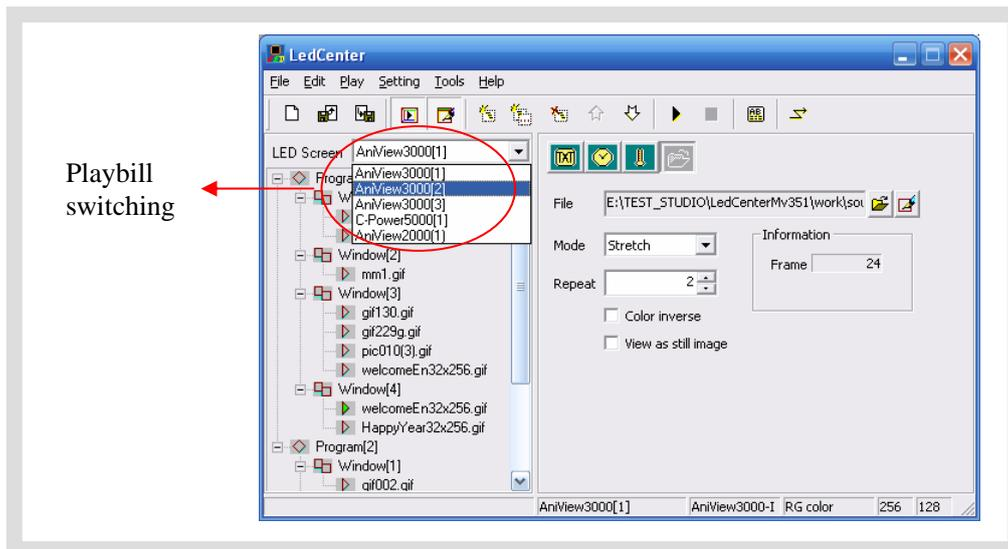

Figure8 Playbill switching of display screens
- The **playbill** switching of display screens is shown as Figure8.